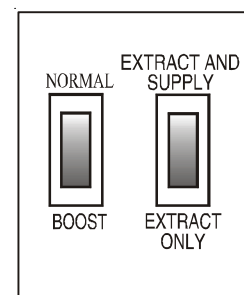

Fig.1
- 2.2 Set the NORMAL/BOOST switch to the '**NORMAL**' position on the fan speed control, (see Fig. 1). The unit will now operate at the minimum ventilation rate.